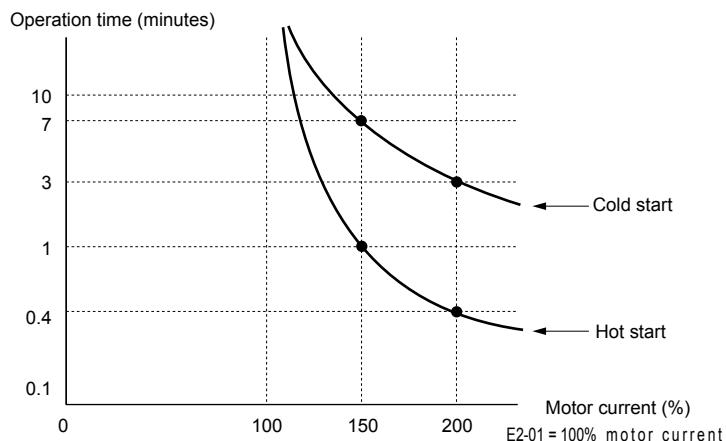

Figure 5.76 Motor Protection Operation Time
- Figure 5.76** shows an example of the electrothermal protection operation time using a general-purpose motor operating at 60 Hz with L1-02 set to one minute.